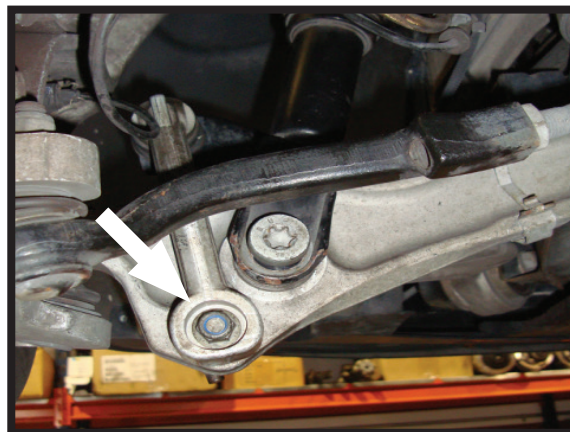

FIGURE 1
3. REMOVE THE SWAY BAR END LINK NUT TO DISCONNECT IT FROM THE LOWER CONTROL ARM. (FIGURE 1)